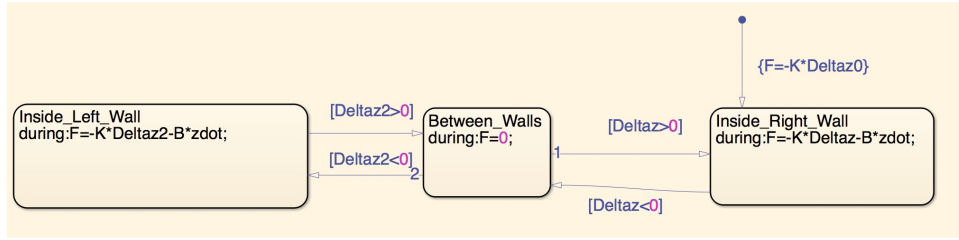
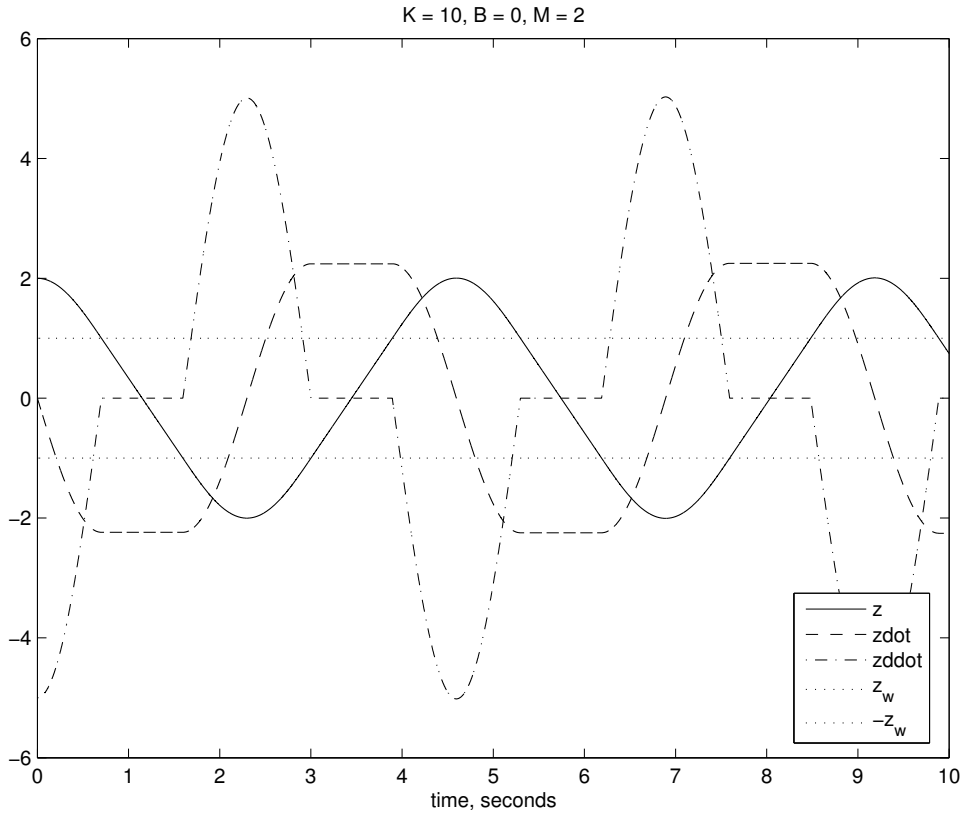

Figure 6: Stateflow Model for Two Virtual Walls
Figure 7: Simulation with two virtual walls.
- (b) The Stateflow model is shown in Figure 6, and the response of the puck for $B = 0$ is in Figure 7.